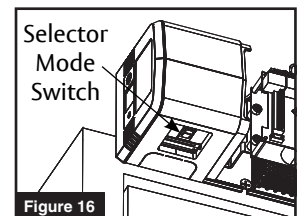

Figure 16
- Orient union assembly so access door covering selector mode switch faces floor. (Figure 16)